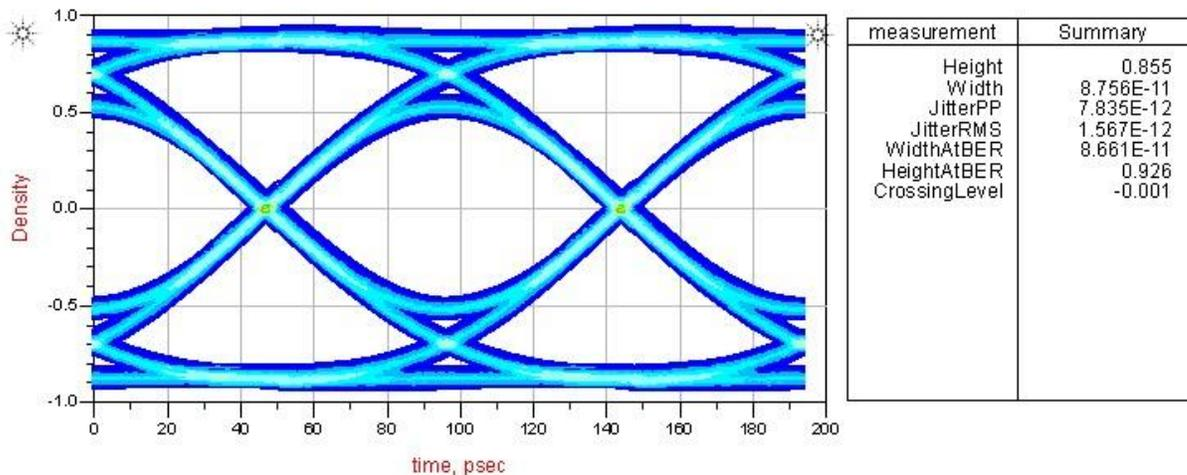

Figure 4: Eye plot for ASIC TX to DS1xxDF410 RX link with RX_Config=2
8. The eye plot will appear in the plot window, as shown in Figure 4. Note that this is a plot of the eye as it appears after the DS1xxDF410’s CTLE and DFE equalization but before the retiming function, TX de-emphasis, and VOD are applied. This plot will be equivalent to the input to the decision slicer. It is also possible to simulate and plot the output of the decision slicer (by setting RX_Config=0), however doing this will not give you visibility into the receiver’s eye opening margin.